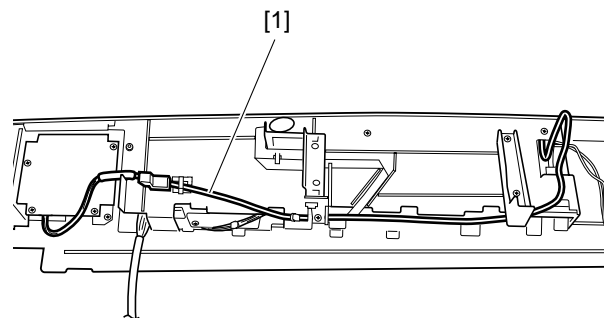

Figure 8-605
- 6) Route the cable [1] as shown in Figure 8-605.